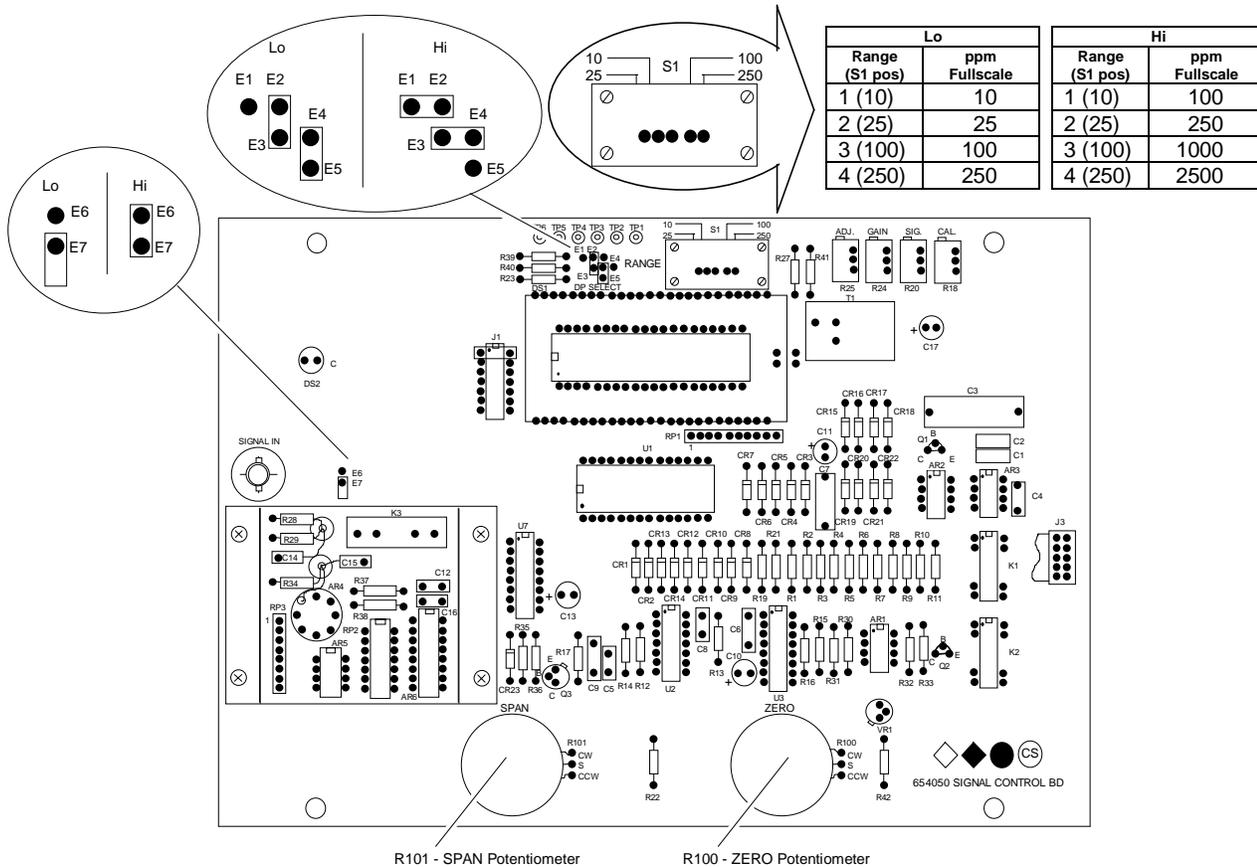

FIGURE 3-2. SIGNAL BOARD
The Model 951C has eight customer selectable ranges, four LO ranges (10 ppm, 25 ppm, 100 ppm and 250 ppm) and four HI ranges (100 ppm, 250 ppm, 1000 ppm and 2500 ppm). The range is selected by positioning the RANGE Switch (S1) and the three jumpers on the Signal Board to the desired range controlling the recorder output. Refer to Figure 3-2.
2. On Signal Board, Figure 3-2, set PPM RANGE Switch (S1) to 250 ppm.
1. On the Signal Board, Figure 3-2, set PPM RANGE Switch for the same range that will be used during sample analysis. Set SPAN Control at about mid-range.
1. On the Signal Board, Figure 3-2, set PPM RANGE Switch to the position appropriate to the particular span gas.